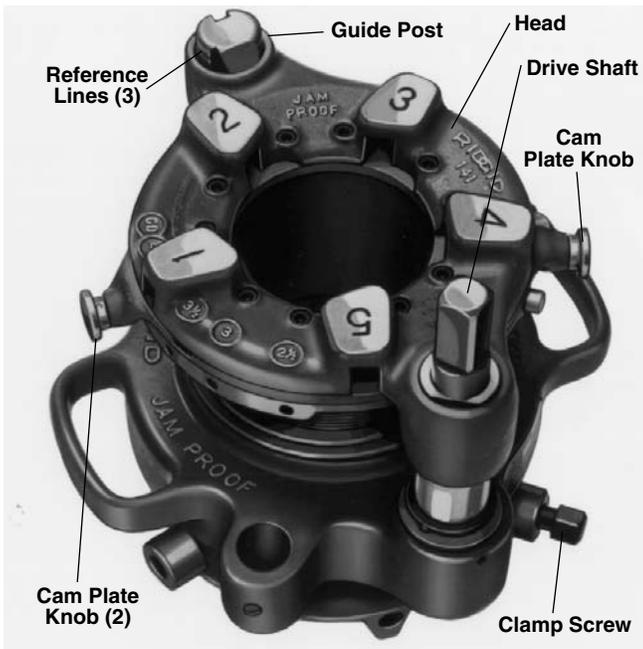

Figure 16 – No. 141 Geared Threader Showing Pinion Sleeve and Guide Post Reference Lines
Grasp workholder and turn square end of drive shaft or turn gear case by hand to respective reference lines on guide post (*Figure 16*).
4. Turn guide post until straight slot faces inward for straight thread. For tapered threads set tapered slot inward. *Figure 16* shows guide post set to cut tapered thread.
- 141 and 161 – Using the socket wrench, loosen clamp screw (Figure 16), turn workholder to OPEN position and remove pipe.